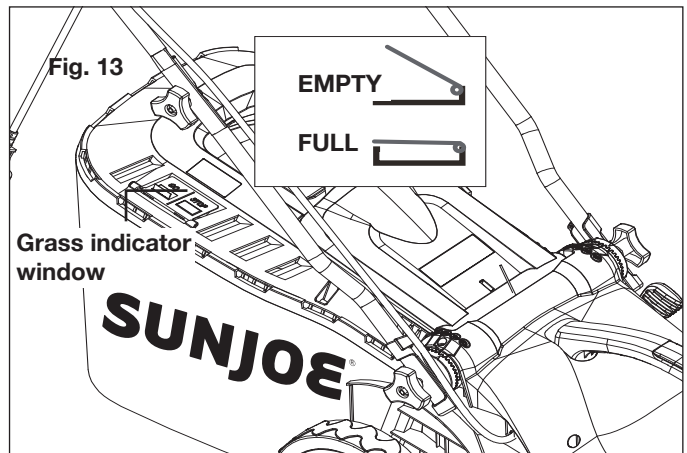

Fig. 13
1. If the grass collection bag is empty or is not completely full with grass, the grass indicator window will remain open (due to the flow of air) or will flutter open and close as the grass accumulates in the bag (Fig. 13).
2. When the grass bag reaches its maximum capacity, the grass indicator window will remain closed (due to the restricted air flow). This signals that it is time to empty the bag (Fig. 13).